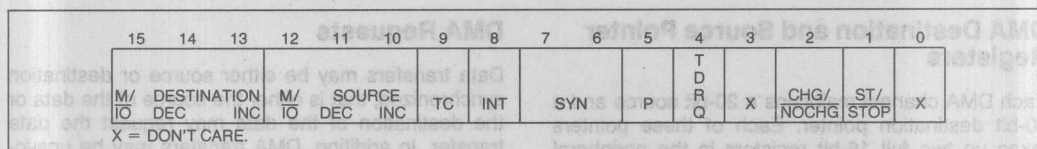

Figure 17. DMA Control Register
(TC) specifies the number of DMA transfers to be performed. Up to 64K byte or word transfers can be performed with automatic termination. The Control Word defines the channel's operation (see Figure 17). All registers may be modified or altered during any DMA activity. Any changes made to these registers will be reflected immediately in DMA operation.